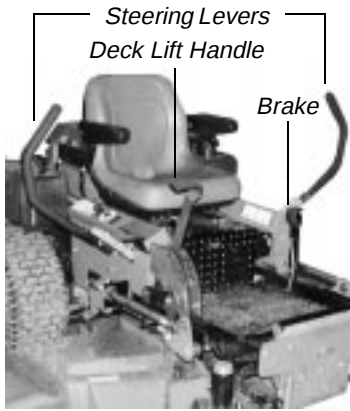

Figure. 3
3. **Left and Right Steering Levers:** (See Figure 3.) These hinged levers open out to the side in the neutral position to permit the operator to be seated or to leave the mower's seat. The operator, when seated, can pull the levers up to the operating position, a comfortable forearm's length away. These levers control all of the movements of the mower. Pushing both levers forward causes the mower to move forward. Pulling both levers back causes the mower to move backward. Pushing one lever ahead of the other lever causes the traction wheel on the side where the lever is ahead to rotate faster than the other traction wheel, making the mower turn toward the side where the lever is behind. When one lever is pushed forward and the other lever pulled back the same amount, one traction wheel will turn in reverse and the mower will turn within its own length.
5. **Parking Brake:** (See Figure 3.) Located on the left side of the traction unit. The handle is an overcenter lever which applies the internal drum-type brake on each drive wheel when the handle is pulled to the rear. The brake must be engaged in order to start the engine.
6. **Deck Lift Handle and Foot Pedal Lift Assist:** (See Figure 3.) Located on the right front corner of the mowing deck. Raise the mowing deck to the transport position, by pulling the lever to the rear and moving it inward into the stop for transport. To lower the mowing deck, pull the deck lift handle and move it outward. This lowers the deck to the cutting position. The foot pedal lift assist (not pictured above) can provide “lift assist” to the hand lever or with “foot effort only”. To provide assistance to the lift handle: remove the hairpin clip from the locking pin and remove the pin from the pedal assembly. Fold the pedal down to the horizontal position so the hole in the pedal aligns with the hole in the lever. Reinstall the locking pin and hairpin clip. Pull on the Lift handle and depress the foot pedal to raise the deck. Lifting with “foot effort only” depress the foot pedal (the hand lever will lock into transport position if fully depressed). To release the lift mechanism depress the foot pedal, move the hand lever outward and slowly reduce foot pedal effort to lower the